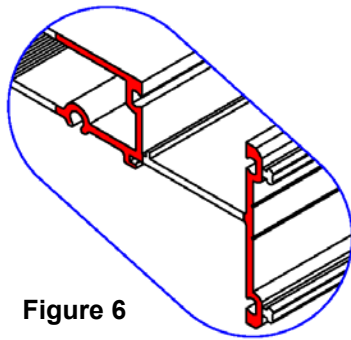
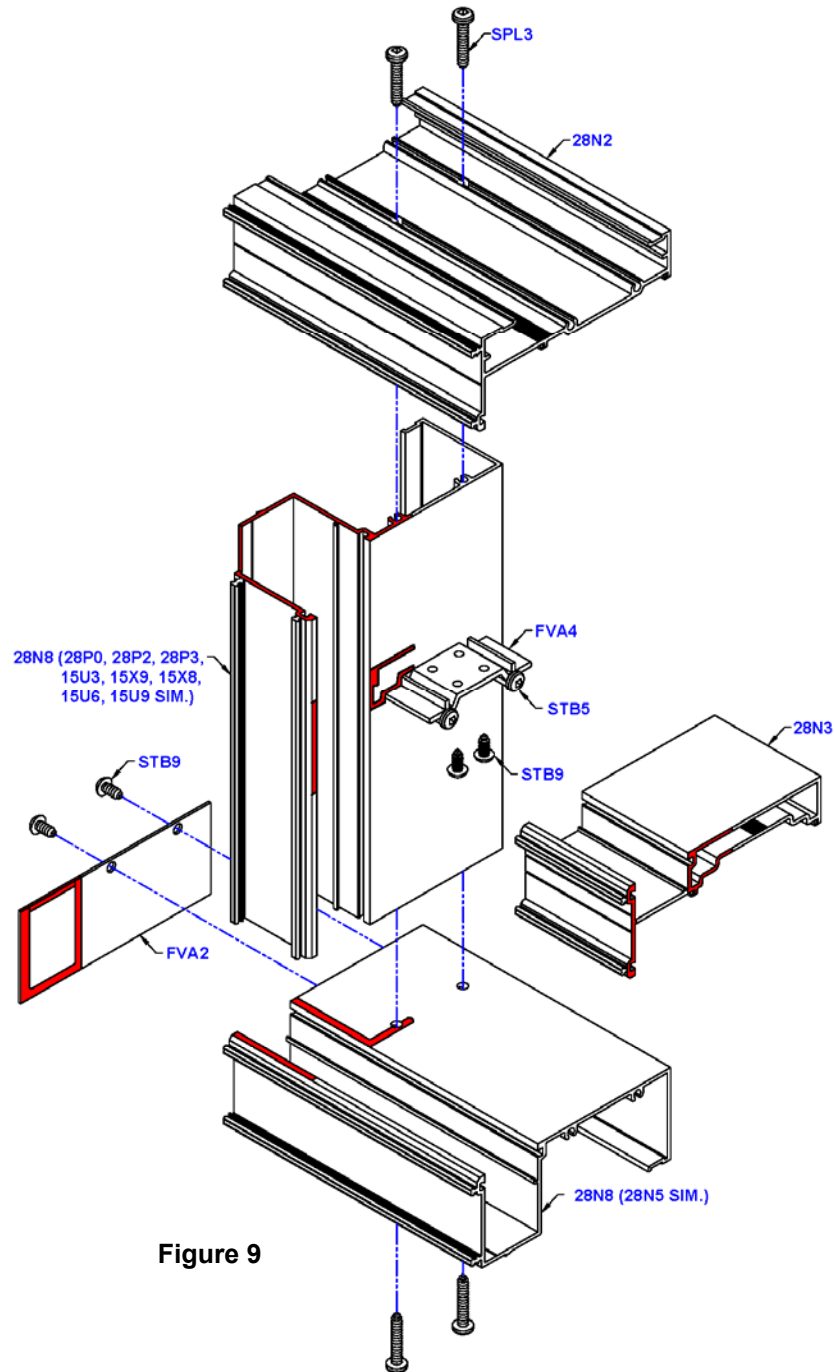

Figure 6
Figure 9
- Apply a generous bead of sealant to the ends of all horizontals to a minimum 1" back from the face of the horizontal glazing pocket as represented in figures 6 and 7 by the shaded areas.
- Using (2) SPL3 fasteners per intersection attach horizontal framing members to a vertical framing member.
- Using (2) STB5 fasteners per shear block install them onto the vertical members.
- Apply a generous bead of sealant to the ends of all horizontals to a minimum 1" back from the face of the horizontal glazing pocket as represented in figures 6 and 8 by the shaded areas.
- Using (2) STB9 fasteners per shear block attach the horizontal framing members.
- Apply a generous bead of sealant to the ends of all horizontals and Verticals to a minimum 1" back from the face of the horizontal glazing pocket as represented in figures 6 and 9 by the shaded areas.
- Using (2) SPL3 fasteners per intersection attach the vertical to the head and sill framing members.
- Apply a generous bead of sealant to the sill end dam, including across the top, as represented in figure 9.
- Using (2) STB9 fasteners attach an end dam to each end of the sill framing member.